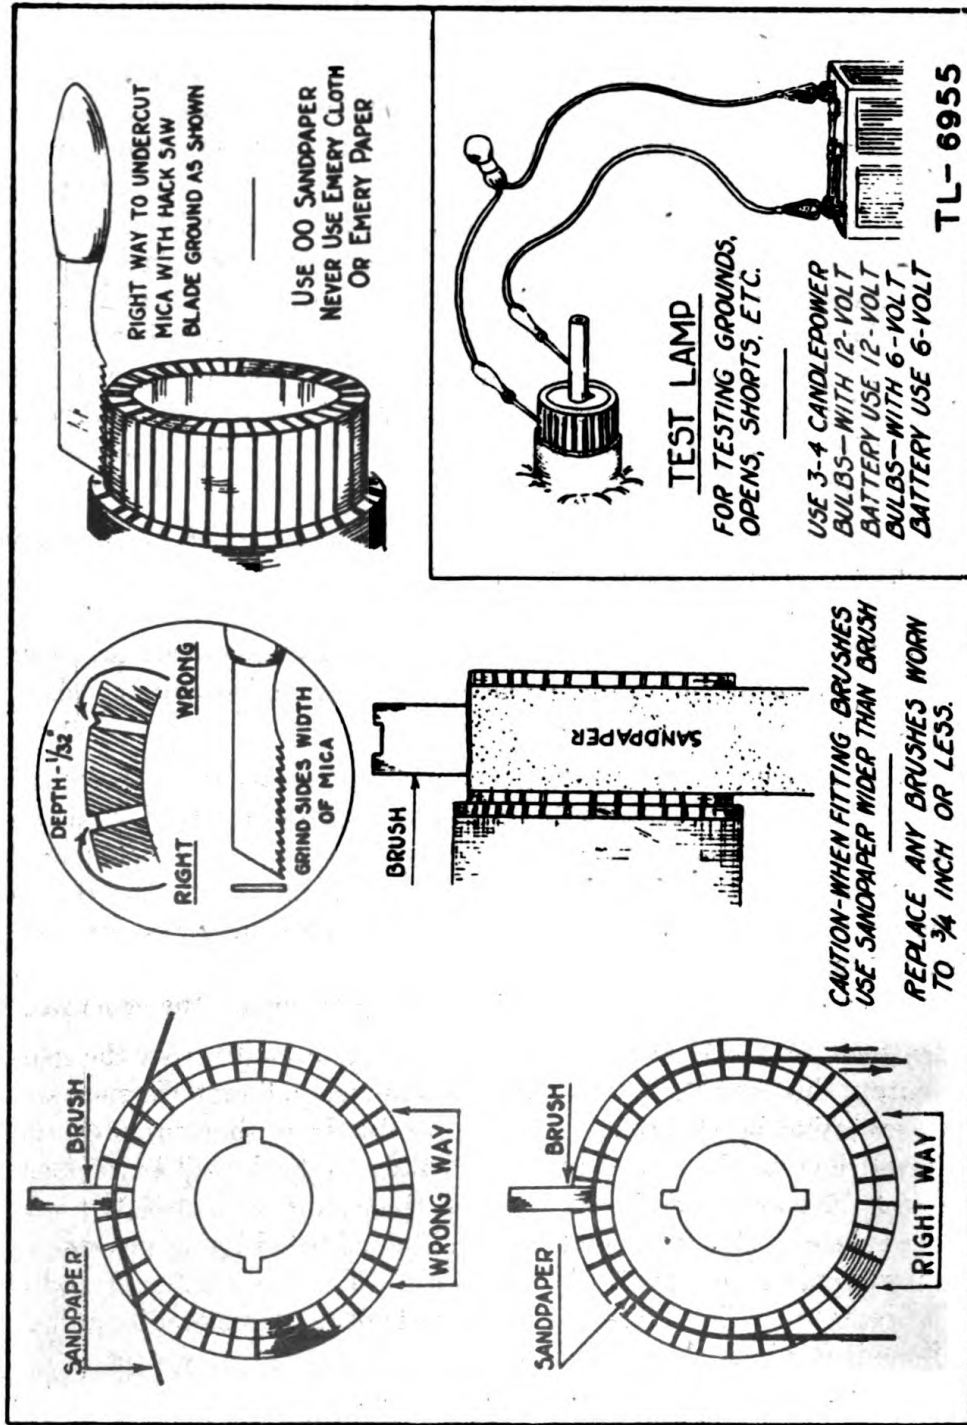

Figure 24.—Fitting brushes; undercutting and testing commutators.
c. Brushes.—Check brushes after every 300 hours of operation. When worn to a point where the brush holder arm nearly touches the brush holder, replace with new brushes. The brushes can be taken out by removing the lock wire holding brush and spring in brush holder. Disconnect brush pigtail from brush holder. To install brushes, reverse the procedure. Fit the brushes to the commutator and slip rings, by putting a piece of fine sandpaper (fig. 24) the width of the brushes on the commutator or slip ring (from the side of the commutator or slip ring). Shape the brush by pulling sandpaper in the direction of rotation of the generator while pressing on the brush. Release the pressure on the brush and pull the
d. Commutator.—The commutator is probably the most frequent source of trouble. Keep the commutator clean by rubbing with a clean, coarse cloth while the unit is operating, or if necessary with 000 (fine) sandpaper. Do not use sandpaper more than necessary. Do not use emery cloth or paper as they are electrical conductors and may short circuit the armature. If the commutator is rough, badly pitted, or out of round, place it in a lathe and turn it down until smooth. After turning down the commutator, undercut the mica insulation about $\frac{1}{32}$ inch below the level of the commutator bars so the brushes can ride on the copper without interference (fig. 24). Check carefully to see that no metal particles are lodged between the bars. The armature winding may be damaged if the plant is operated with the commutator shortcircuited in this manner.
e. Testing d-c winding.—To test the d-c winding of the armature raise the brushes from the commutator. Place one end of a test lamp lead (series hook-up using a 3 or 4 candlepower bulb with a 6- or 12-volt battery) on the commutator and the other lead on the end of the armature stud (fig. 24). If the bulb lights, the commutator is grounded and the plant will not generate current. Replace the generator.